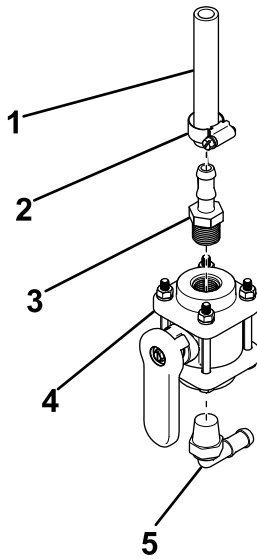

Figure 31
3. Install a 90° hose fitting onto the bottom of the ball valve (Figure 31).
4. Install a straight hose fitting onto the top of the ball valve (Figure 31).
5. Secure the 9.5 cm (4-3/4 inches) hose to the straight hose fitting with a hose clamp (Figure 31).